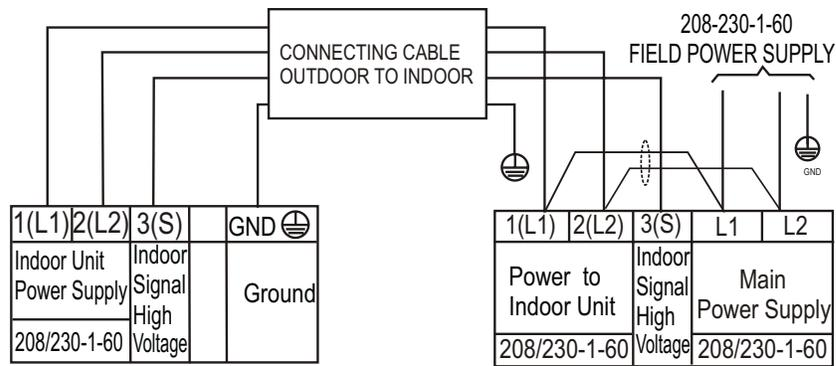

Fig. 8 — Size 24K Indoor Unit
2. All connections between the indoor and outdoor units must adhere to the connections shown in figures 8 - 9. The connections are polarity sensitive and **improper wiring results in a fault code.**